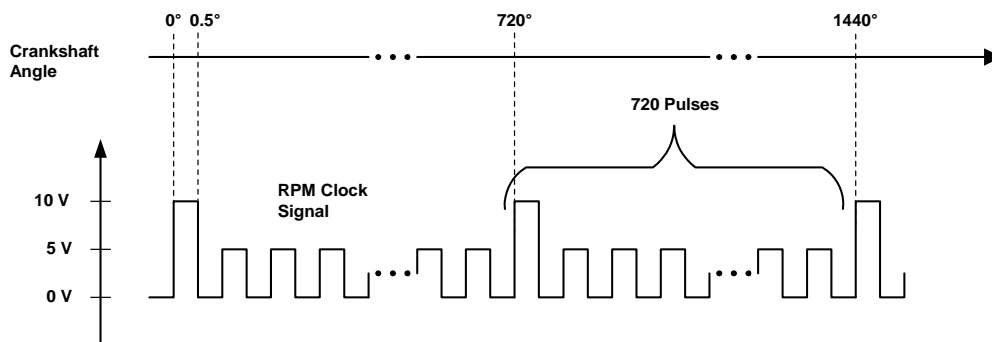

Fig. 8-8 Angle clock signal to synchronize to 0° camshaft and calculate the angle position of the engine
This information is determined by the ES1334.1 from the angle clock signal supplied on the front panel via the "SYNC" input. The angle clock signal (see Fig. 8-8) is generated by an ES1332.1 Arbitrary Signal Generator Board and makes it possible to synchronize to 0° camshaft and calculate the angle position of the engine.
- of the angle clock signal (see Fig. 8-8 on page 153) or